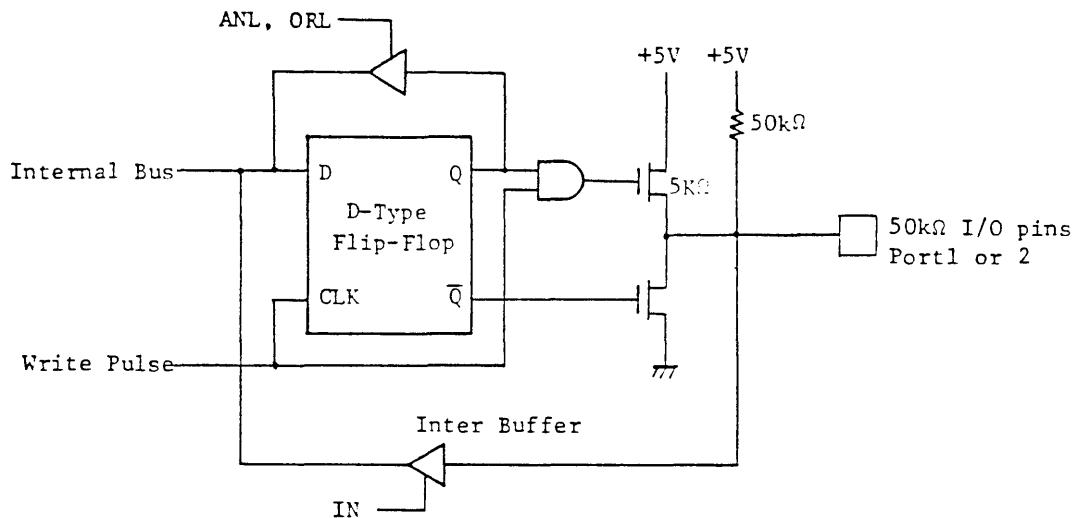

Fig.1 Input/Output Circuit of Port 1, Port 2
(3) Input/Output Ports
- All lines of Ports 1 and 2 are called quasi-bidirectional because of a special output circuit structure (illustrated in Figure 1). Each line is continuously pulled to a +5V level through a high impedance resistive device ($50k\Omega$) which is sufficient to provide the source current for a TTL high level yet can be pulled low by a standard TTL gate thus allowing the same pin to be used for both input and output. In order to speed up the "0" to "1" transition a low impedance device ($5k\Omega$) is switched in momentarily whenever a "1" is written to line. When a "0" is written to line a low impedance device overcomes the pullup and provides TTL current sinking capability.